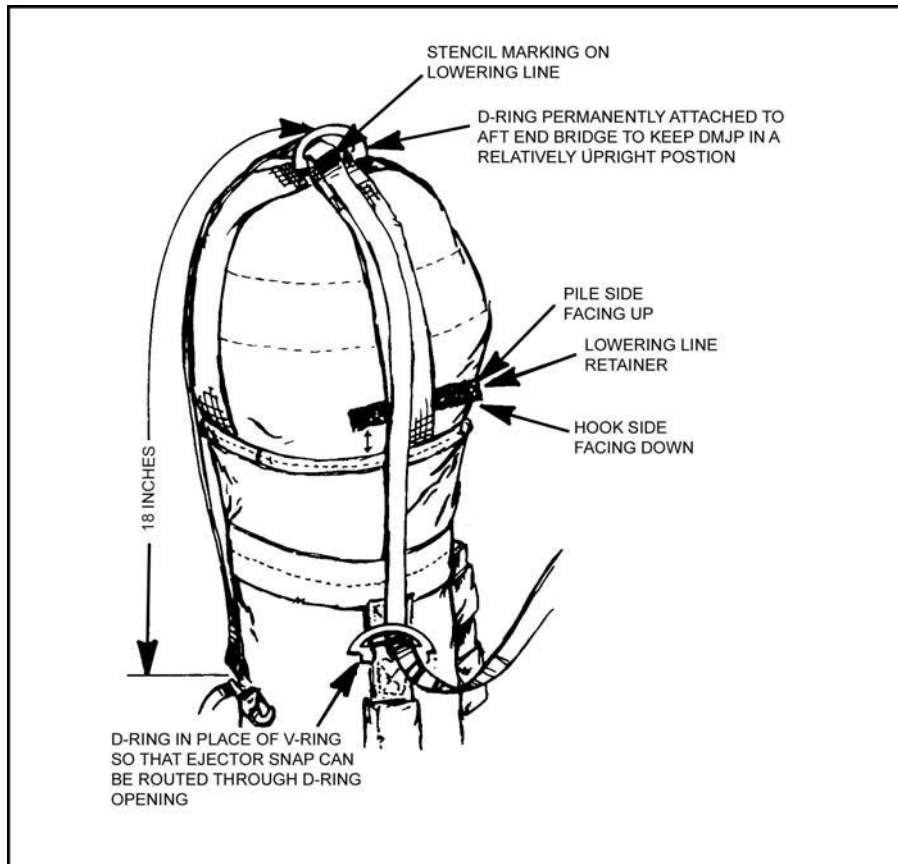

Figure 12-45. DMJP modified with D-ring.
a. To secure the 15-foot HPT lowering line, grasp the ejector snap of the HPT lowering line. Route it (from bottom to top) through the D-ring openings at the pack body and aft end locations. Position the 18-inch strata blue marking on the HPT lowering line even with the D-ring on top of the DMJP (Figure 12-45).